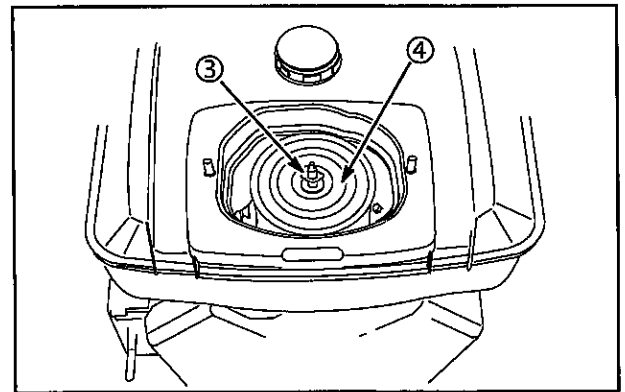

Fig. 8
2. Remove air cleaner nut (3), top plate (4) and air cleaner element, **Fig. 8**.